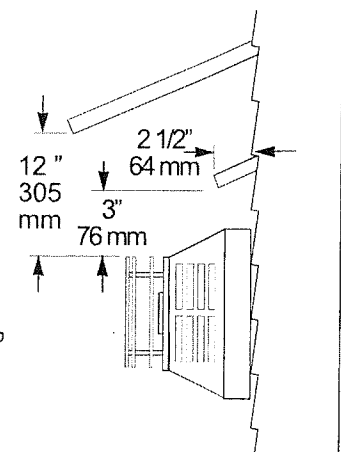

Figure 19.
- **A horizontal termination cap must maintain a 3 inch clearance to any overhead combustible materials that project 2 1/2 inches or less.** Projections exceeding 2 1/2 inches require a minimum 12 inch clearance to the edge of the vent termination. See fig. 19.